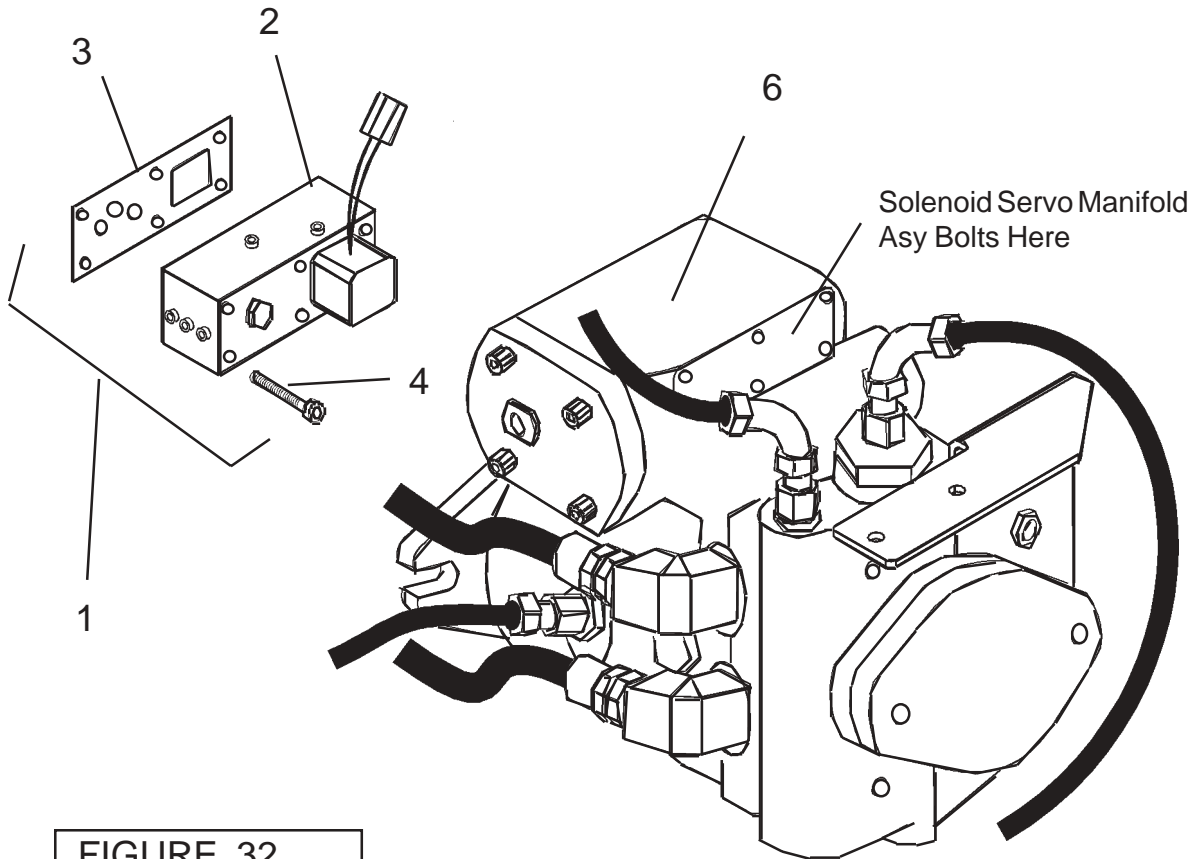

FIGURE 32
(See Figure 32)
3. **Valve Spool Spring.** Install Spring Retainer (item 5), Spring (item 6) and second Spring Retainer (item 5) onto Valve Spool (item 7). Compress Spring by pushing on outer Spring Retainer and install E-Ring (item 4) onto Valve Spool.
4. **Valve Spool.** Install Valve Spool assembled into Control Housing (item 1) making sure that the metering notches (See Figure 32) are facing outward and can be seen through the Metering Ports, Check the notches at this time, if the notches cannot be seen it will not work.
5. **Feedback Link and Bell Crank.** Bell Crank (item 12) should have Head Pin (item 17) already installed. Position Bell Crank in Housing, Slide Feedback Link (item 9) into position between Clevis on Valve Spool aligning holes, install Retaining Dowel Pin (item 10) and E-Ring (item 11).
6. **Input Shaft.** Install New O-Ring (item 15) onto Input Shaft (item 14), Hold Bell Crank in position with Feedback Link Slot and align Splined Hole of Bell Crank with Input Shaft Cavity. Install Input Shaft into Control Housing and Bell Crank. Apply Loctite # 242 or equivalent to Set Screw (item 13) and install it to retain Input Shaft. Tighten Set Screw till it bottoms out against Input Shaft and then back it out 1/4 turn.
7. **Wiper Seal.** Install Wiper Seal (item 16) on Input Shaft and seat into Control Housing.
8. **Valve Spool Plug.** Install New O-Ring (item 3) onto Valve Spool Plug (item 2) and install Plug, Tighten Plug till there is no play in Valve Spool with Input Shaft held stationary. Lock in place with Set Screw (item 8), Torque Set Screw to 17 to 25 in. lbs. (2 to 3 nm)